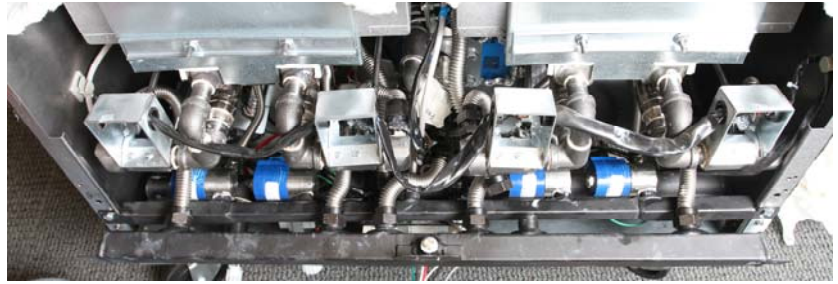

Figure 1: The oil-return manifold is shown pulled from the frame to expand the flex lines and to ease access.
3. Remove bolts supporting oil-return manifold and slowly pull manifold away from fryer. This will expand slightly the flex lines and produce access space. **See figure 1.**